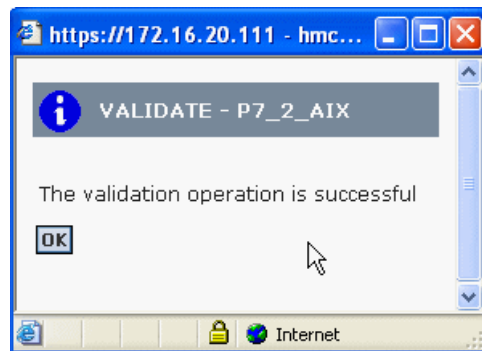

Figure 17-29 Partition successful validation
3. After completion, the **VALIDATE** windows will provide information regarding the status of the operation, as shown in Figure 17-29. You can now select **OK**.